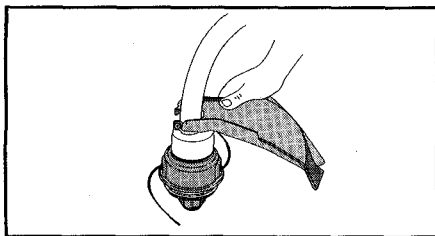

Fig. 7
2. Push the string guard down to the top of the string head assembly and then rotate the string guard to the proper position (Fig. 7). The string guard is in the correct position when the string guard points toward the engine, and the holes in the string guard line up with the holes in the top of the string head assembly.